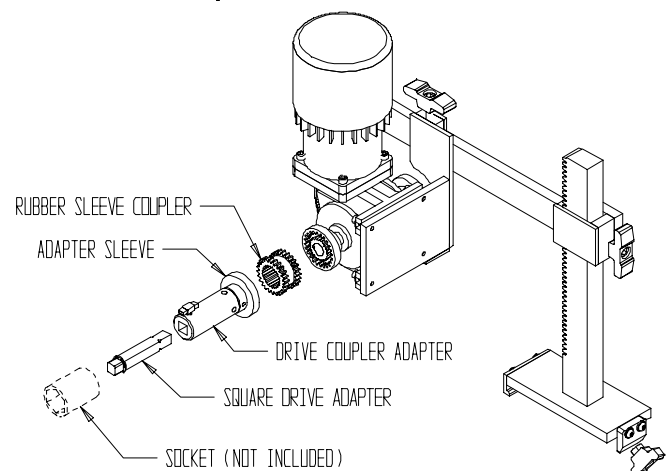

FIG. 21
**RUBBER SLEEVE COUPLER:** This is placed in the corresponding flange coupler already mounted in the spin drive shaft. See FIG. 21.
3. Place the proper 1/2" [12.7 mm] square drive socket or adapter on the reel drive nut and then insert the square drive shaft into the socket. Place the adapter sleeve over the drive shaft and insert the drive coupler adapter assembly into it. Finally place the rubber coupler onto the drive coupler adapter. See FIG. 21.